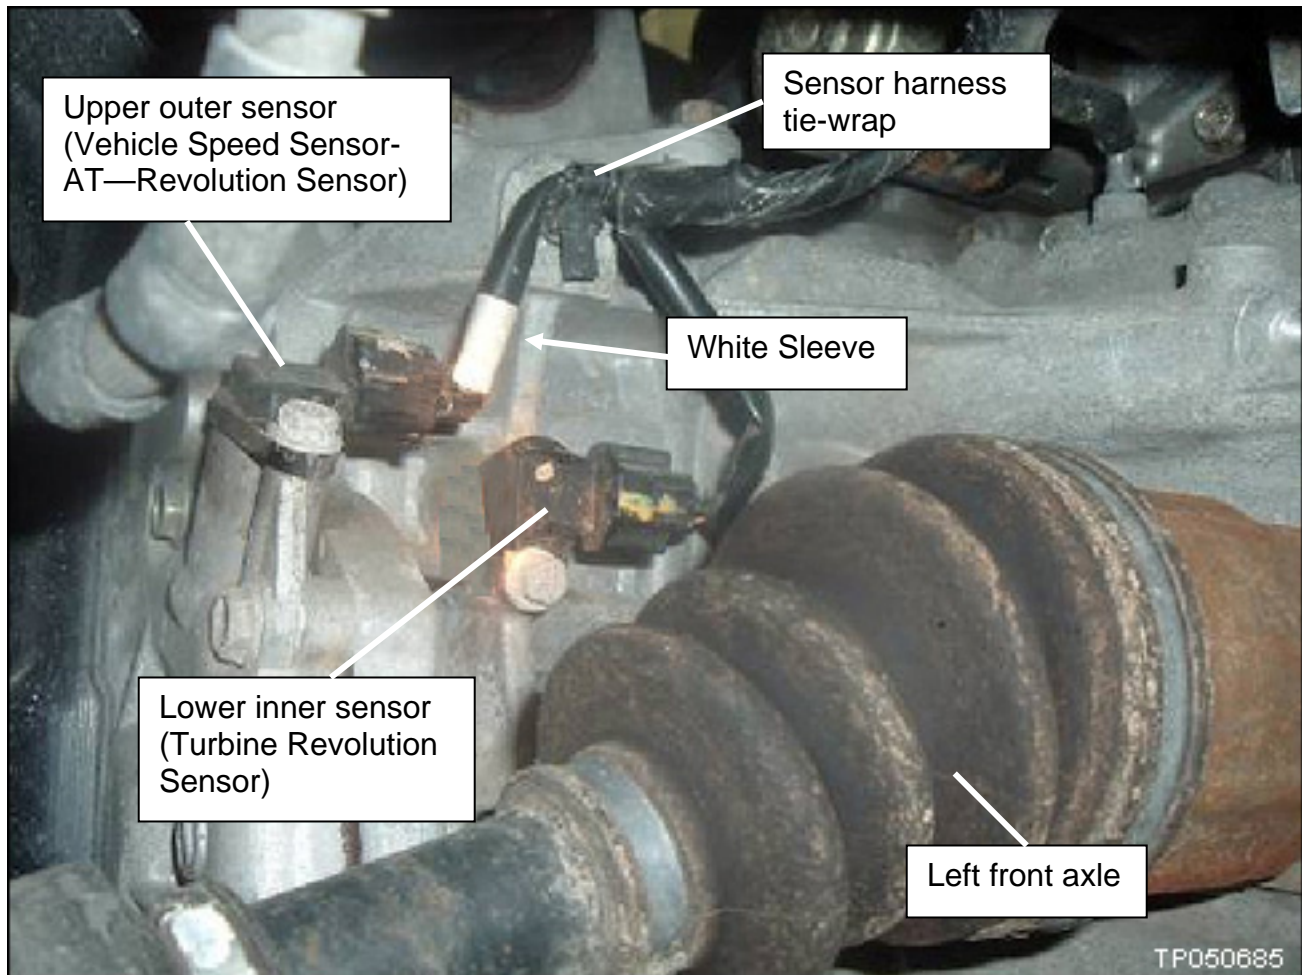

Figure 1
1. Check the 2 connectors on the rear left side (driver side) of the transmission for correct installation (see Figure 1). Make sure they're not switched.
- b. If the connectors are **not** installed as described above; switch them so they are. Reconnect them and secure the sensor harness tie-wrap into the attachment hole as shown in Figure 1.